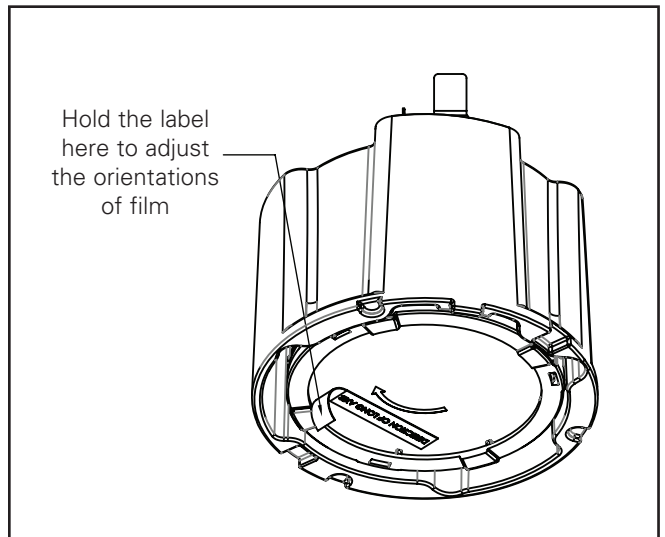

Figure 9
8. To adjust the orientation of the asymmetric film, hold the label tab and rotate it to required position. (Figure 9)